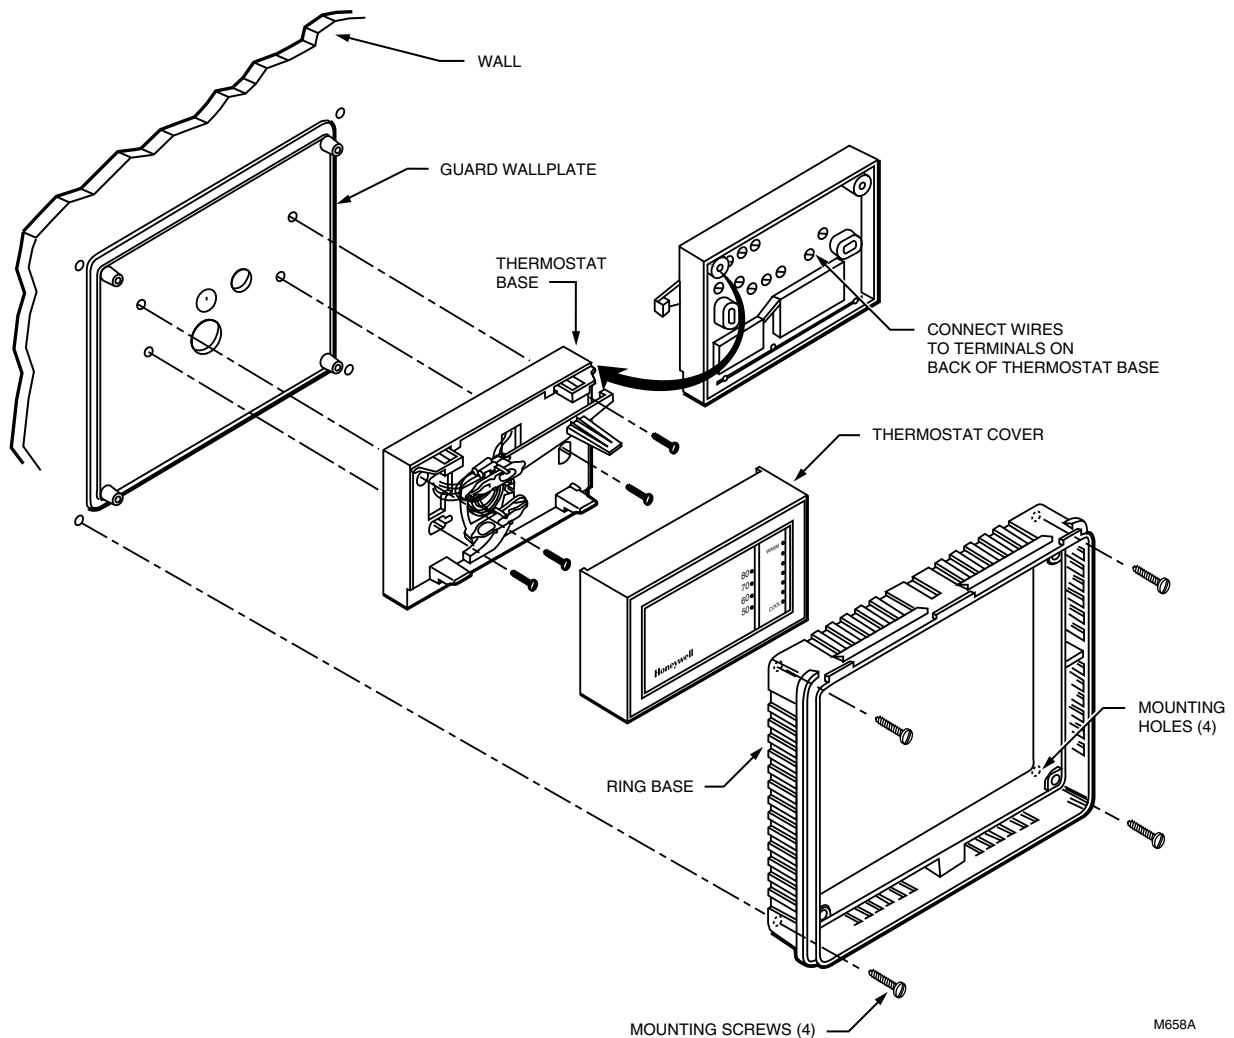

Fig. 11. Mount guard wallplate and ring base on back-wired thermostat.
## Back-wired Thermostat (Fig. 11)
- ❹ Mount the smooth side of the guard wallplate facing the thermostat and run the system wires through the wiring hole in the guard wallplate. The guard wallplate must be placed between the thermostat and the wall. See Fig. 11.
- ❺ Back-wire the thermostat. Refer to the instructions provided with the thermostat.
- ❻ Mount the thermostat and the guard wallplate to the wall using the 1-1/4 in. sheet metal screws provided with the thermostat. Make sure the guard wallplate is placed between the thermostat and the wall.
- ❼ Place the thermostat cover on the thermostat.
- ❽ Mount the guard ring base over the thermostat and the guard wallplate.
- ❾ Attach the ring base using four 1-1/4 in. sheet metal screws or four anchors and screws (provided).